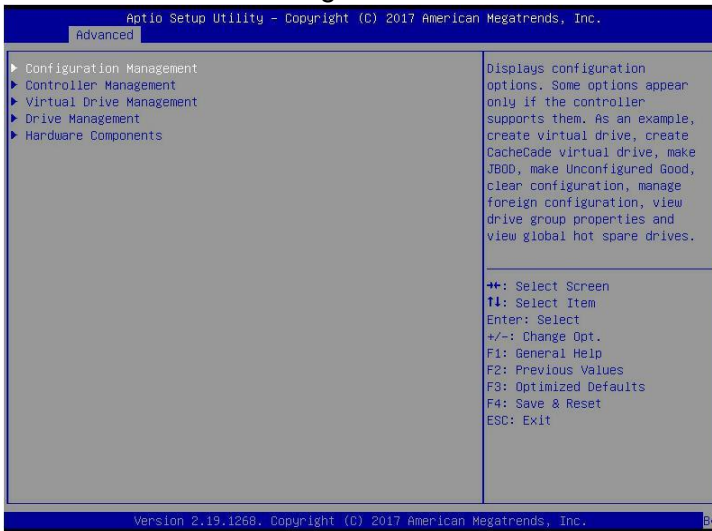

Figure 6-31
- a) As shown in Figure 6-31, select Configuration Management on the RAID card configuration interface, and press Enter.
❖ Figure 6-31 RAID card configuration interface